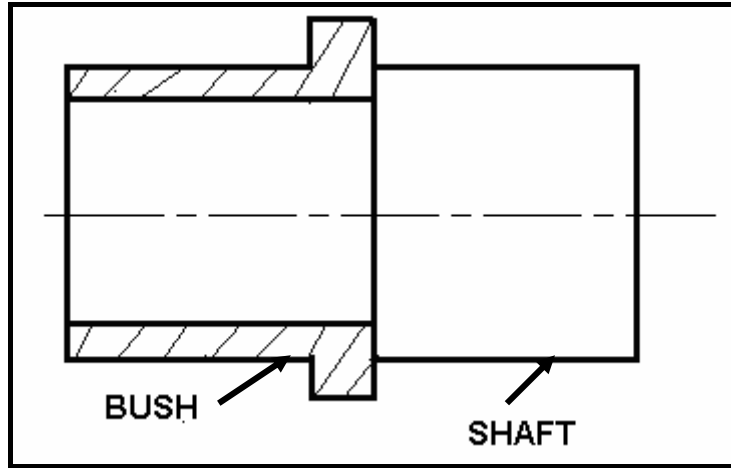

FIGURE 3.2
3.4 FIGURE 3.2 shows a cross-sectional view of a bush and a part of an aluminium shaft of a model car which is subjected to a low speed. A bush that will ensure low friction and low maintenance needs to be manufactured. No lubrication is allowed.